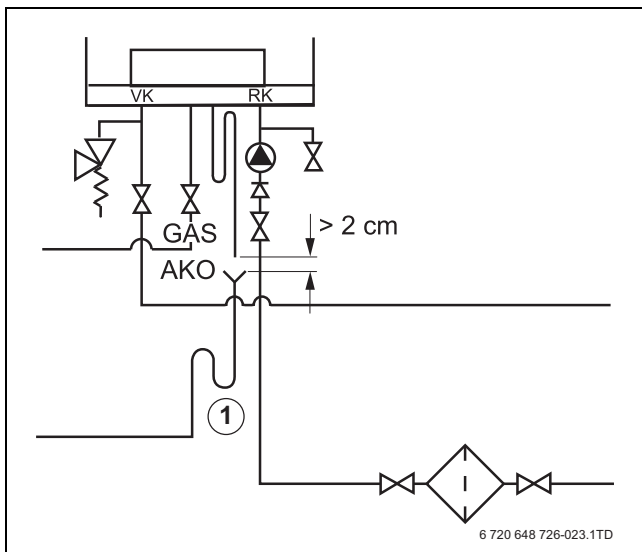
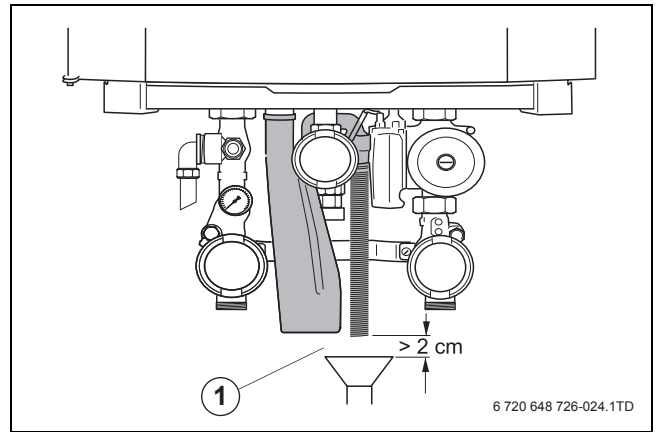

Fig. 23 Connecting the condensate trap
Fig. 24 Condensate drainage pipe
► Connect the condensate drain pipe to the condensate trap (→ fig. 23, [1] and fig. 24, [1]).